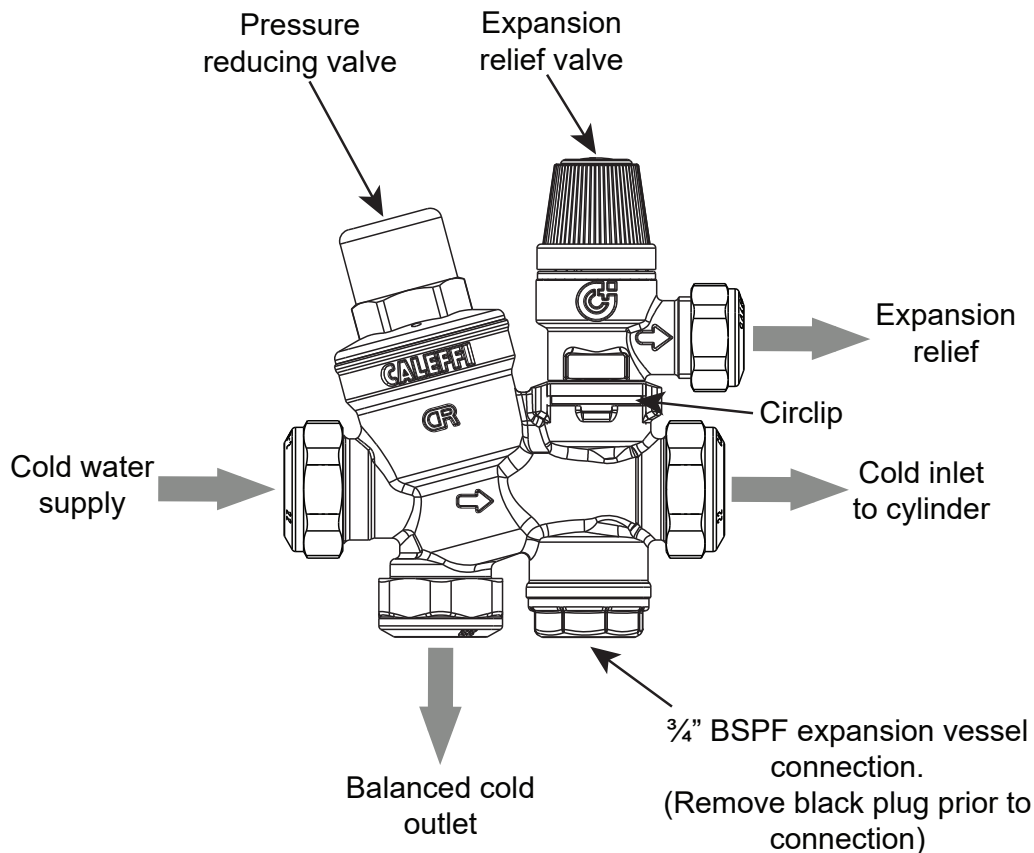

Figure 3-3: Cold water inlet manifold
A balanced cold water connection is provided on the inlet manifold. Refer to Figure 3-3. This should only be used to provide balanced cold supplies to shower valves and mixer taps. If the balanced cold water outlet is not required, blank off this port.
4. Once the pipework is flushed connect the cold supply to the Inlet manifold. Refer to Figure 2-2 for location and Figure 3-3 for a detailed drawing of the manifold. A service valve (not supplied) must be fitted in the cold supply to the cylinder before this connection is made.
7. Connect the expansion vessel directly to the $\frac{3}{4}$ " BSPF connection in the inlet valve manifold body, after removing the black plastic plug (see Figure 2-2 for location and Figure 3-3 for a detailed drawing of the manifold). Refer to Section 3.10 for more information on fitting the expansion vessel.
The preferred method of connection is to hard pipe the expansion vessel directly to the $\frac{3}{4}$ " BSPF connection in the inlet valve manifold body using 22mm diameter pipe. Refer to Figure 3-3.
1. Remove the black plastic plug from the inlet manifold body (refer to Figure 3-3).